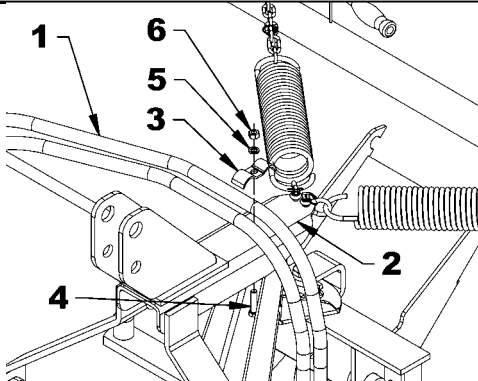

Figure 11A
1. **Figure 11A, B or C:** As shown, attach the two broom hoses (item 1) on the universal hitch (item 2) with the hose clamp (item 3), 3/8"NC x 1 1/2" lg. hex. bolt (item 4), 3/8" lockwasher (item 5) and 3/8" NC hex. nut (item 6). Before tightening the hose clamp, move the broom in all possible directions (up, down, left and right, etc.) and make sure the hoses have enough loose to not get caught between the mobile parts of the broom and the tractor.